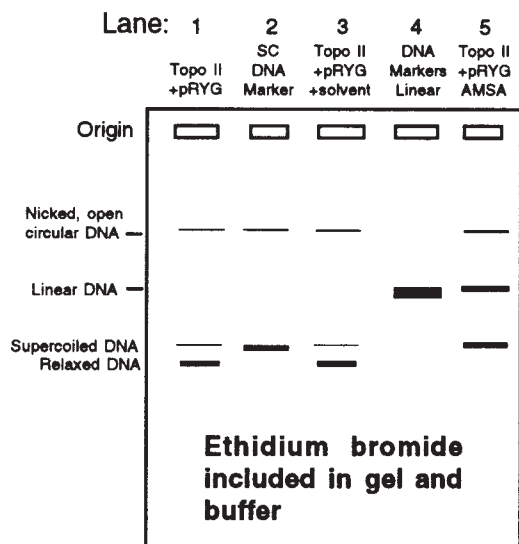

Figure 1
Marker DNAs and controls (see Fig. 1) are extremely important. Any nuclease-free agarose of reasonable quality can be used. Agarose gels (1 %) and running buffers can be any standard nondenaturing electrophoresis buffer (example, 1 x TAE buffer, 50x stock is 242 g Tris base, 57.1 ml glacial acetic acid and 100 ml of 0.5 M EDTA) and ethidium bromide to a final concentration of 0.5 µg/ml (5 µl of a 10 mg/ml ethidium bromide (EB) stock per 100 ml of running buffer). Include EB in the gel and running buffer. Run gels at 1.5-2 V/cm (measured between electrodes) until the dye front has traveled about 80% of total gel length. The DNA can be monitored during electrophoresis with a handheld ultraviolet light. After running, gels should be destained (30 min) in water or buffer and photographed using a standard photodyne system. As noted above, we recommend EB gels to allow you to clearly resolve linear DNA (see below) from the topoisomers. If, however, you wish to determine whether your test compound is a catalytic inhibitor, you should run the gels without ethidium to resolve the topoisomers. The non-EB gels are also ideal for documenting relaxation activity of topo II.
Solvent controls are especially important to ensure that the drug solvent (DMSO or methanol for example) are not interfering with topo II activity. Also, a quick CIA extraction prior to loading the gels is a good idea since the gels will be much more cosmetic; however, the samples must first be treated with proteinase K to digest the bound protein. CIA extractions may also be required if the test compound affects the mobility of the DNA or fluorescent detection (intercalators, strong DNA binding agents, etc.). Note also, to confirm the formation of covalent complexes, you can run the following control (refer to diagram on the cover page above). Two reactions are carried out with the inhibitor; both are stopped with SDS. One is digested with proteinase K and the other is undigested. The covalent topo II/DNA complexes in the reaction that was not digested with proteinase K will be lost by CIA extraction (they will partition to the interphase) and you should lose the linears or possibly open circular DNA complexes. In contrast, the proteinase K digested sample should contain expected cleavage products (linear and nicked DNAs). Fig 1 shows a typical Gel (EB) result with the markers and controls:
The following controls and considerations are important (see Fig. 1)